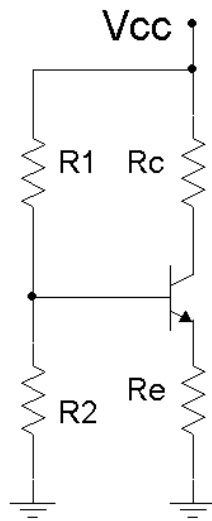

Figure 5.1
1. Consider the circuit of Figure 5.1 using  $V_{CC} = 10$  volts,  $R_1 = 10$  k $\Omega$ ,  $R_2 = 3.3$  k $\Omega$ ,  $R_e = 4.7$  k $\Omega$  and  $R_c = 5.6$  k $\Omega$ . Using the approximation of a lightly loaded “stiff” voltage divider, determine the ideal end points of the DC load line and the Q point, and record these in Table 5.1.
3. Build the circuit of Figure 5.1 using  $V_{CC} = 10$  volts,  $R_1 = 10$  k,  $R_2 = 3.3$  k,  $R_e = 4.7$  k and  $R_c = 5.6$  k. Measure the base, emitter and collector voltages and record them in the first row of Table 5.2 (Experimental). Compute the deviations between theoretical and experimental and record these in the first row of Table 5.2 (% Deviation).
9. Build the circuit of Figure 5.1 in Multisim. Run a DC simulation and record the resulting transistor voltages in Table 5.6.